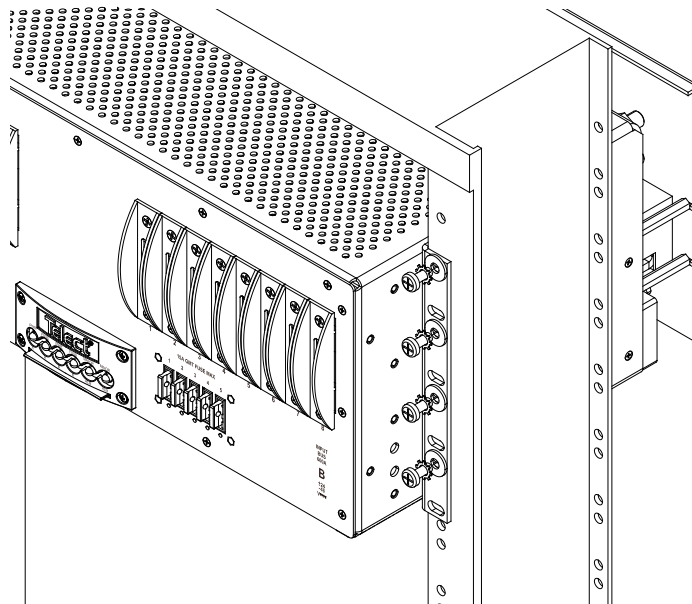

Figure 5 - Rack Mounting
2. Locate an unused rack position and mount panel using at least four sets of fasteners (screws, flat washers, and star washers provided) per side, as shown in Figure 5. (It's best to mount the panel as high as possible on the rack.)